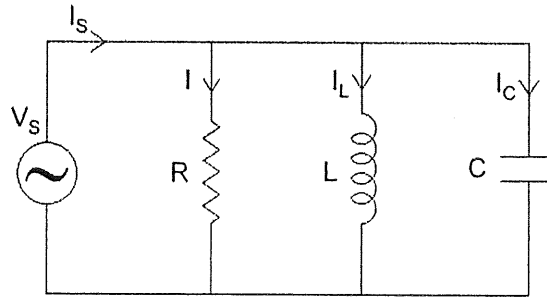

Figure 1
- a) Figure 1 illustrates a parallel tuned resonant circuit with $V_s = 135 \text{ V}$, $R = 75 \Omega$, $L = 0.55 \text{ H}$ and $C = 175 \mu\text{f}$ and $F = 300 \text{ Hz}$. Calculate the followings: